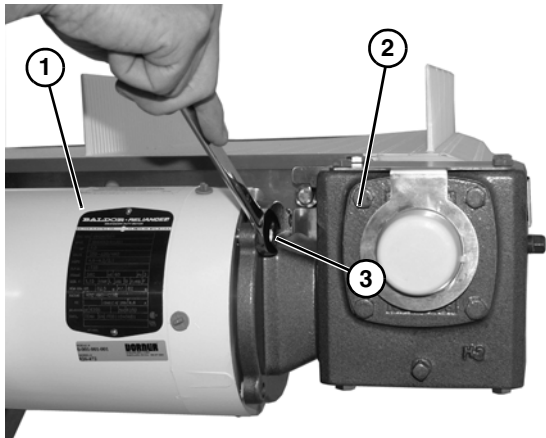

Figure 28
- Secure motor (**Figure 28, item 1**) to gear reducer (**Figure 28, item 2**), with four bolts (**Figure 28, item 3**).
- Tighten four bolts (**Figure 28, item 3**) to 65 in-lbs (7.3 N-m).